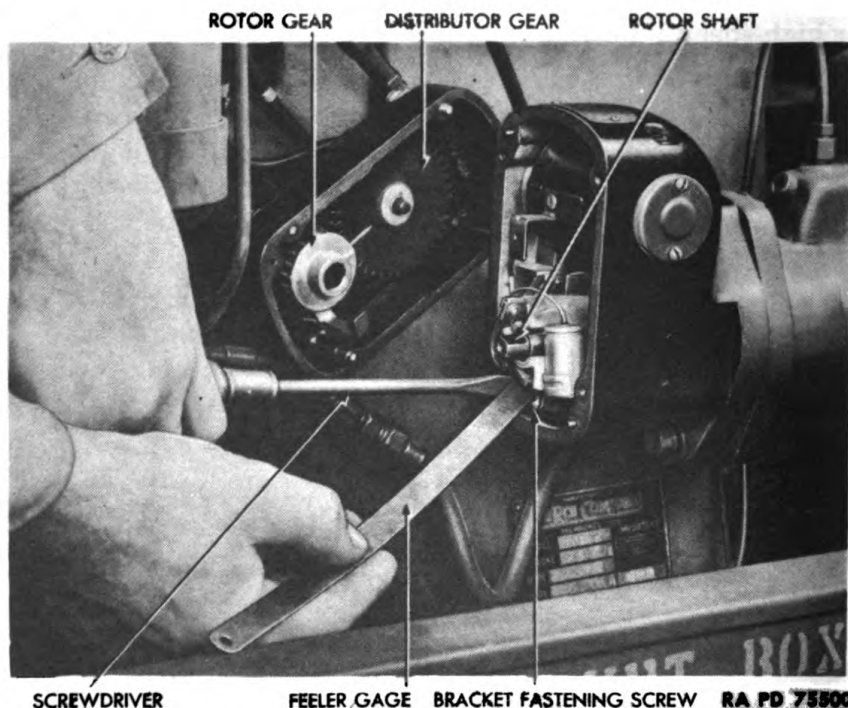

Figure 20 — Adjusting Compressor Unit Engine Magneto Contact Points
2. Adjust contact opening (fig. 20) to 0.014 to 0.018 inch when interrupter lever fiber bumper rests on top of cam lobe. This is done by shifting adjustable contact bracket. After adjustment, securely tighten bracket fastening screw. Contact points must be free of oil and grease and in proper alinement so the full surfaces of both contacts meet squarely. Clean pitted points with an oilstone; do not
3. Replace distributor plate assembly. Line on distributor gear (fig. 20) must be visible through observation window (fig. 19). Engage magnet rotor shaft with rotor gear (fig. 20) and tighten distributor plate fastening screws (fig. 19).